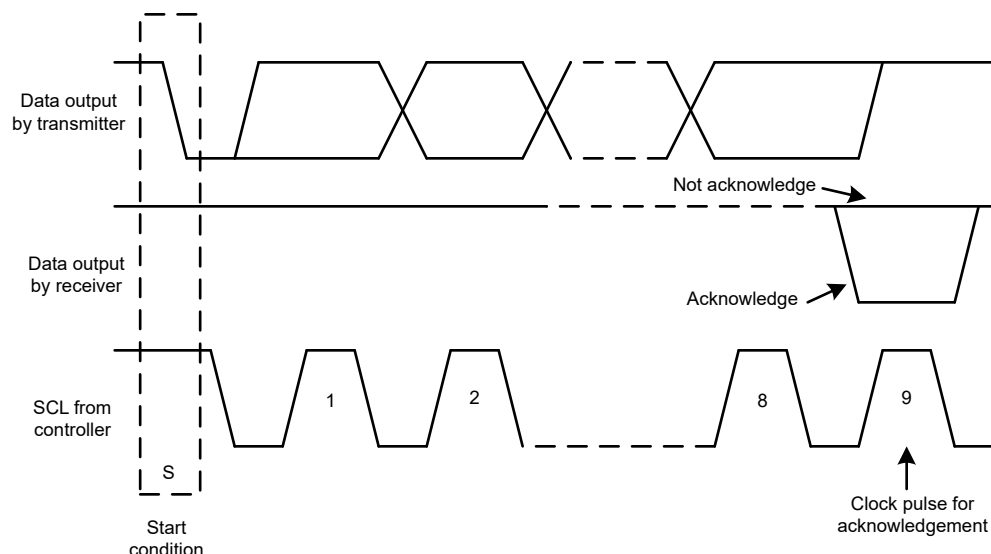
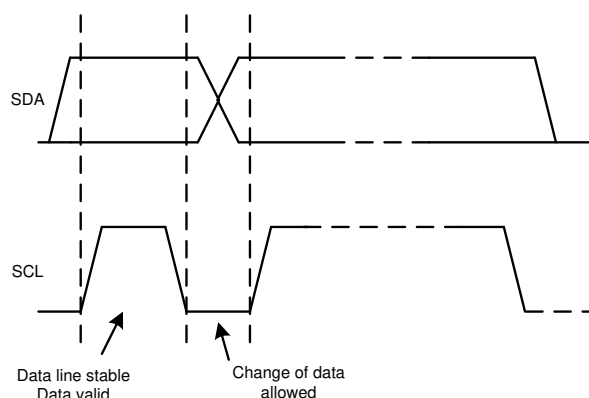

Figure 7-18. Acknowledge and Not Acknowledge on the I²C Bus
Figure 7-20. Bit Transfer on the I²C Bus
Other than specific timing signals, the I²C interface works with serial bytes. At the end of each byte, a ninth clock cycle generates and detects an acknowledge signal. An acknowledge is when the SDA line is pulled low during the high period of the ninth clock cycle. Figure 7-18 depicts a not-acknowledge, when the SDA line is left high during the high period of the ninth clock cycle.
2. The controller then generates the SCL pulses, and transmits the 7-bit address and the read/write direction bit ($\overline{R/W}$) on the SDA line. During all transmissions, the controller makes sure that data are valid. Figure 7-20 shows that a valid data condition requires the SDA line to be stable during the entire high period of the clock pulse. All devices recognize the address sent by the controller and compare the address to the respective internal fixed address. Only the target device with a matching address generates an acknowledge by pulling the SDA line low during the entire high period of the 9th SCL cycle (see also Figure 7-18). When the controller detects this acknowledge, the communication link with a target has been established.